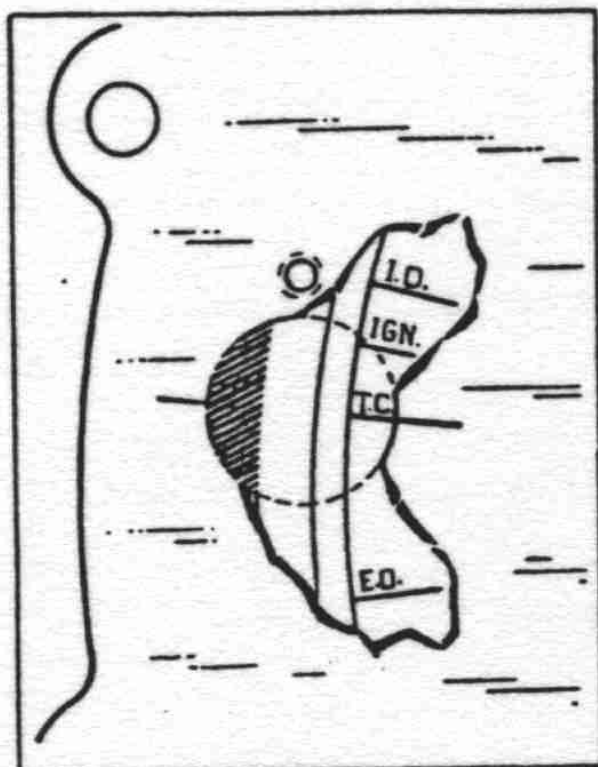

FIG. 16 TIMING MARKS (FLYWHEEL)
5. **Ignition Timing**—Check the ignition timing by using a neon timing light, if available, and make any adjustment needed. A small arm attached to the throttle shaft arm may be turned over and forward to a position that will hold the throttle at an idle position and cause the engine to operate at the moderate speed necessary for use of the neon timing light. If the neon timing light is not available, crank the engine very slowly by hand, stopping exactly when the breaker contacts separate at firing position for No. 1 cylinder. Then check the position of the IGN mark on the flywheel, (Fig. 16) as seen through the timing hole in the flywheel housing on the left side of the engine. Timing is correct if the IGN mark is at the center of the hole at the instant the points separate. Repeat the checks a time or two for accuracy. If necessary to adjust the timing, loosen the clamp bolt, turn the distributor body to the proper position and tighten the bolt. Then recheck to verify the correctness of the new setting.